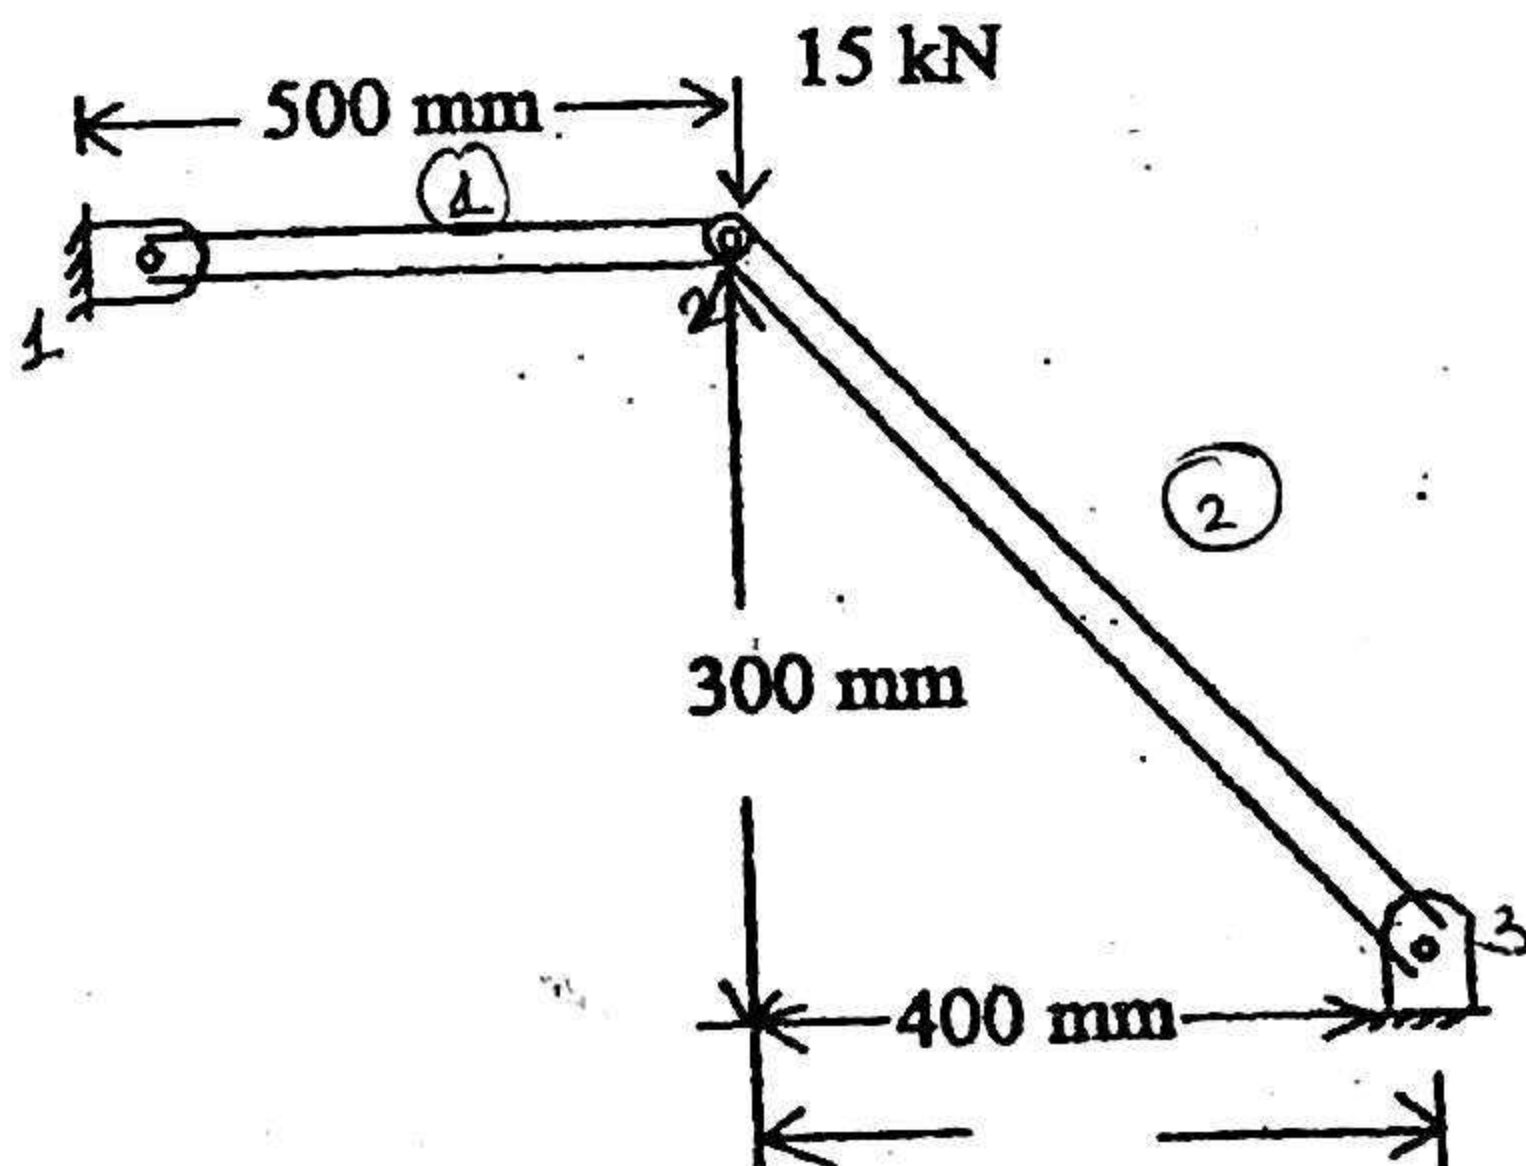

Fig. 7
7. For the plane truss shown in Fig. 7, determine displacement at the nodes and stresses in members. Given cross sectional area of member = 200 mm^2 and Elastic constant $E = 2 \times 10^5 \text{ N/mm}^2$. (13)